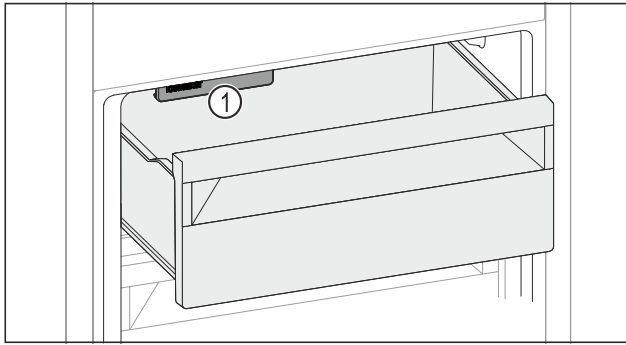

Fig. 126
- Watch out for the IceMaker Fig. 126 (1).